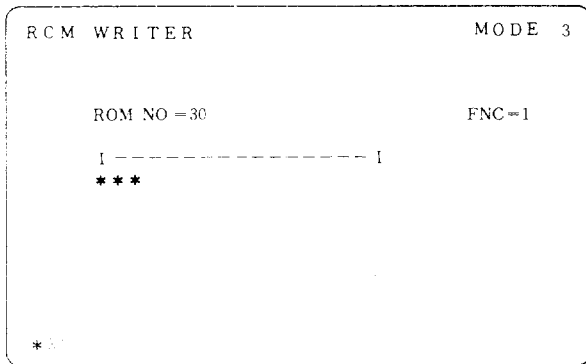

Fig. 9.32
- x. Depress **R**, **L** and **WR** Keys on the editing panel. Data will be transferred from XSD to the P-ROM writer and increase asterisks (*) on the screen (Fig. 9.32). With the data transfer completed, a comment "OK" or an equivalent response will appear on the screen. If the transfer is stopped midway, repeat from step viii.